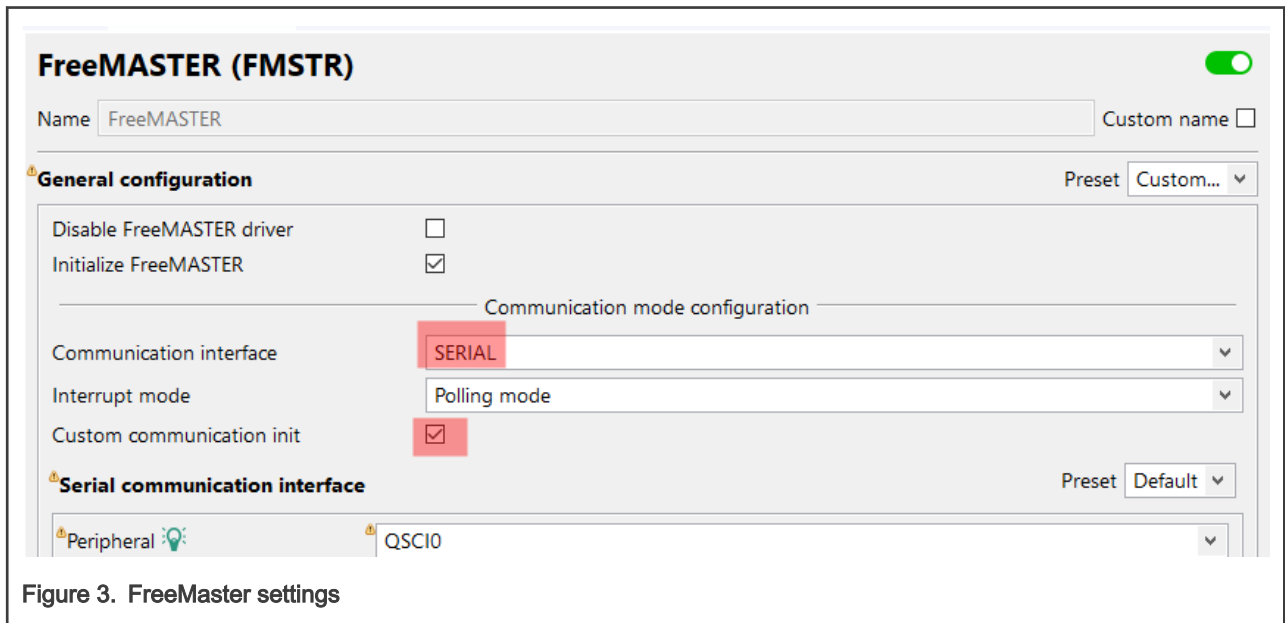

Figure 3. FreeMaster settings
2. Add FreeMASTER component into Middleware panel, and make necessary settings as shown in Figure 3. Choose **SERIAL** as communication interface and check **Custom communication init**. The remaining FreeMASTER settings, such as, scope, recorder, TSA, can be configured as wanted. Click the **Update Code** button in the tool.